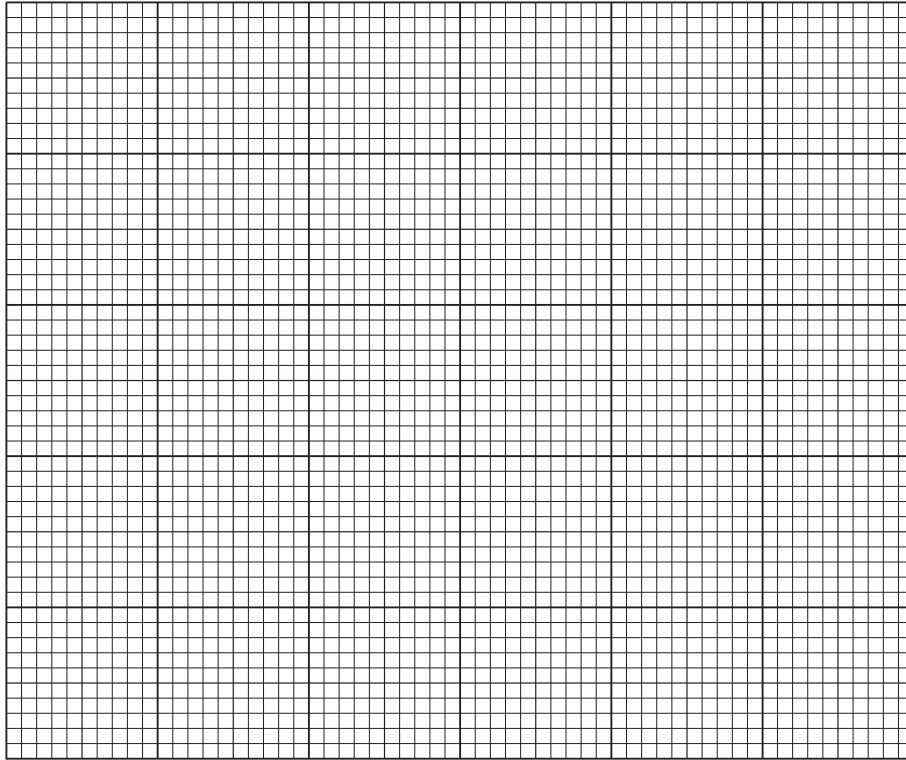

Fig. 1.2
- (i) Plot a graph of the data in Table 1.2 on the grid in Fig. 1.2.